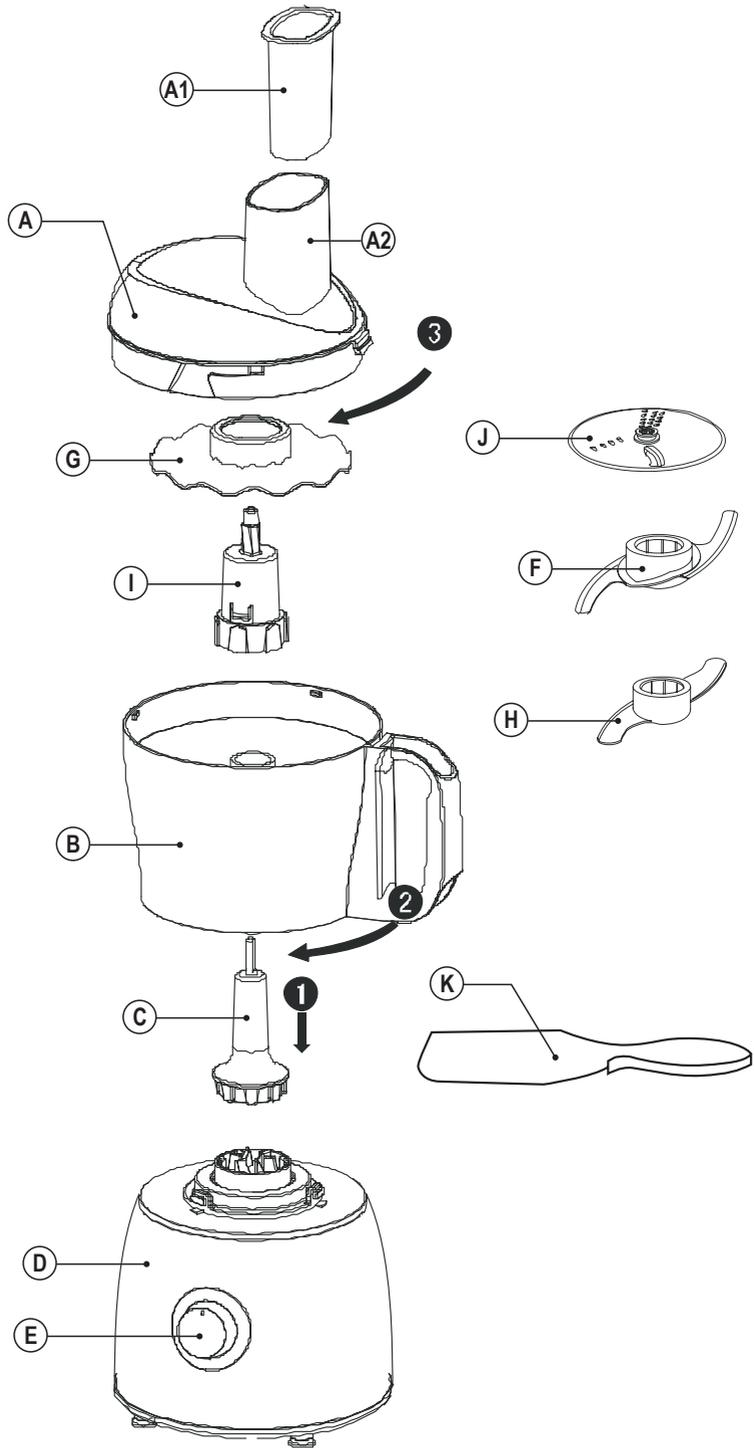

Fig 1
- ◆ Place the jar onto the motor body and lock it by turning clockwise. (Fig. 1).